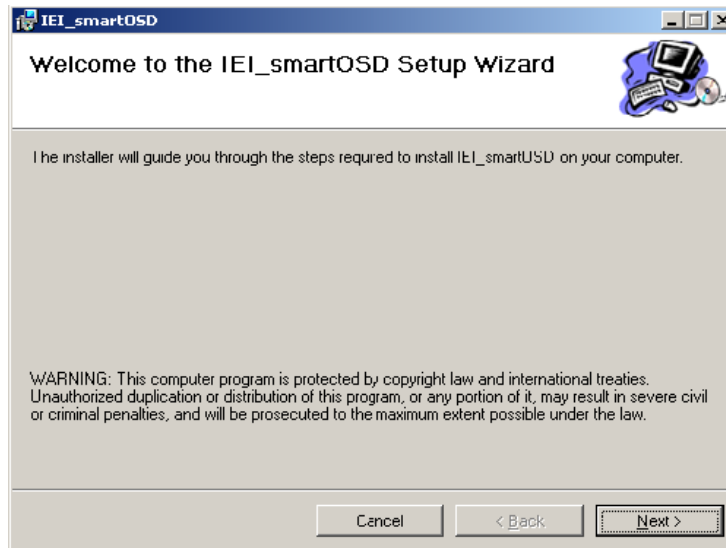

**Figure C-1: smartOSD Installer**
**Step 1:** When the CD installs the screen shown in Figure C-1 appears.
**Step 2:** Click “Smart OSD” in Figure C-1.